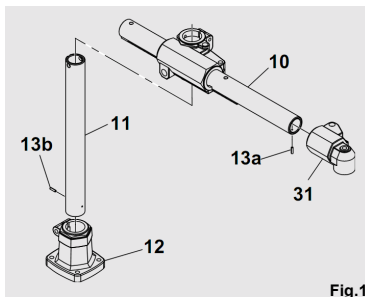
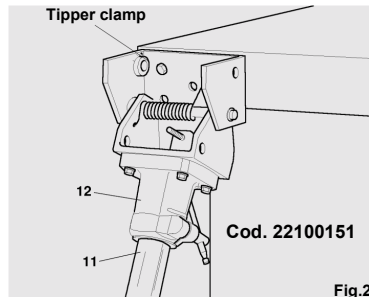

Fig.1
Fig.2
If the support is mounted on a “tipper clamp” (see Fig.2), the **Elastic Pin System**, through the pin (13B) (see Fig.1), prevents the vertical column (11) from coming off the base (12), even if the handle has not been locked.
This safety system also applies to the horizontal column (10) (see Fig.1), since the pin (13a) keeps the pipe from not sliding out of the column itself.